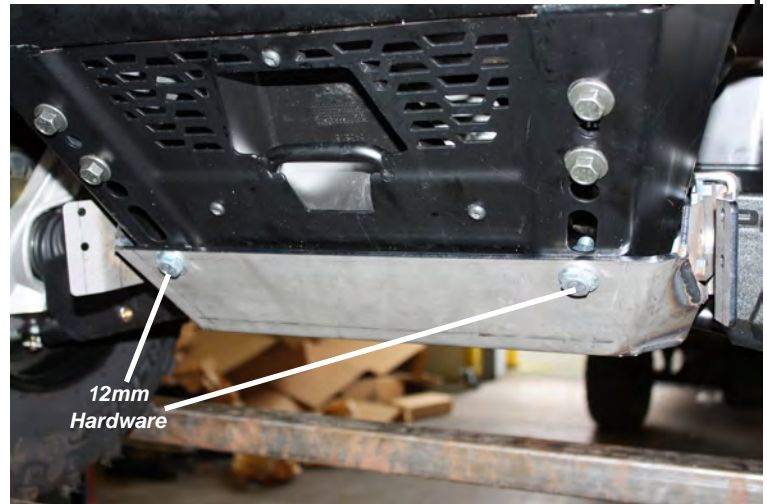

Figure 1
1. Position front plow mount against front and underside of vehicle's bumper as shown in Figure 1. Loosely secure with 12mm hardware using existing holes in factory bumper.